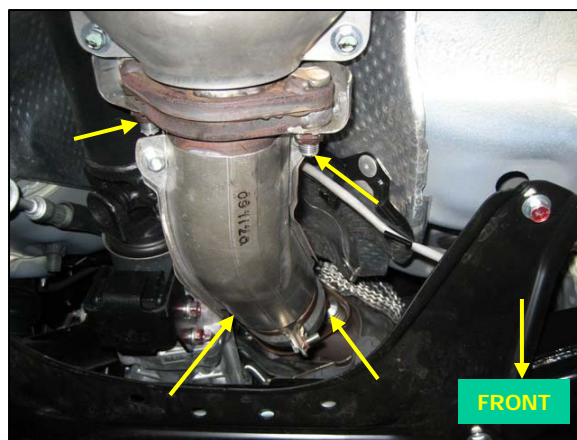

Fig. 15
17. From underneath the vehicle, remove the front exhaust pipe (before catalytic converter). Remove the 2 bolts with springs into downpipe with 14mm socket on 12" (305mm) extension. Rear nuts are 19mm. If you do not desire to remove the oxygen sensor from the pipe, secure the pipe under the car with zip-ties or wire, so that the oxygen sensor wire is not supporting the weight of the pipe (2 bolts, 2 nuts, 14mm & 19mm sockets, extension). Fastener locations shown by arrows in figure 15.